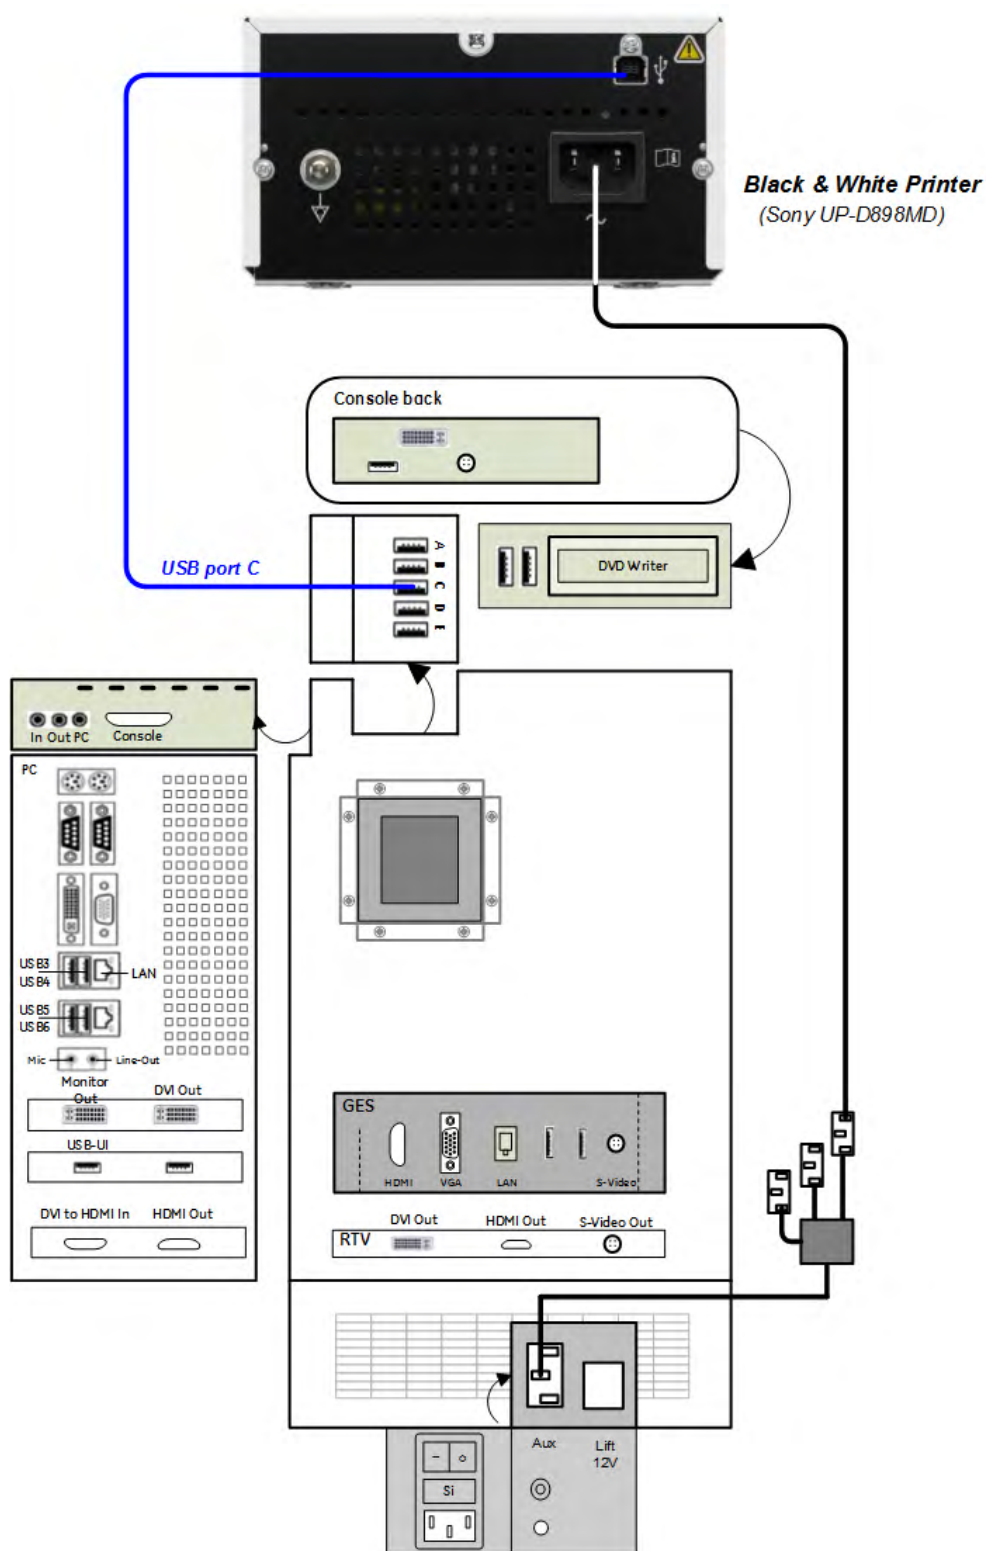

Figure 3-11 Connection Scheme - B&W Printer
- b. Press the Power ON button (1) on the printer.
- c. Enter the Menu by pushing the **Joystick** key (2).
3. Connect the Black & White printer according to connection scheme, see: Figure 3-11 on page 3-18.